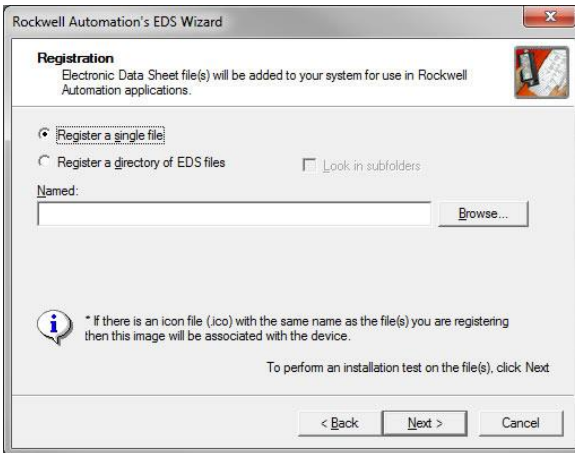

Figure 27: EDS Registration
- 4) The "Registration" dialog will appear. Refer to Figure 27.